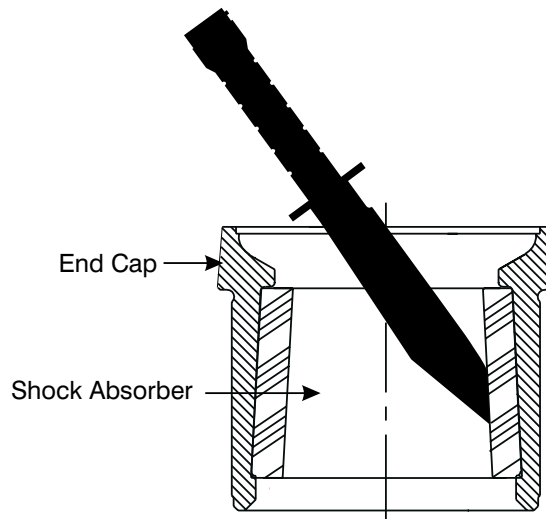
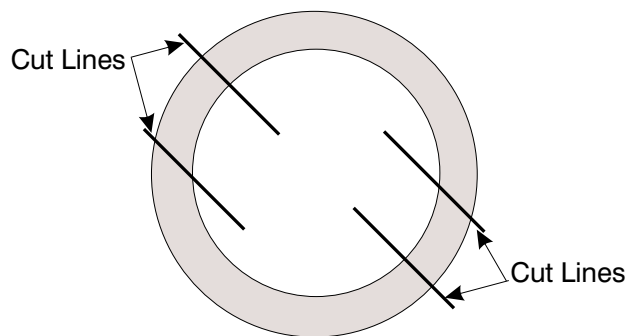

Figure 8-30. Cut the Shock Absorber from the End Cap.
Figure 8-31. Cutting Pattern to Remove Shock Absorber from End Cap
12. If the recommended size push bar is not available, cut the Shock Absorber from the End Cap as shown in Figure 8-30.
- Use a sharp knife or hack saw to cut through the Shock Absorber (11), and remove it from the End Cap.
- See Figure 8-31 for the recommended cutting pattern.